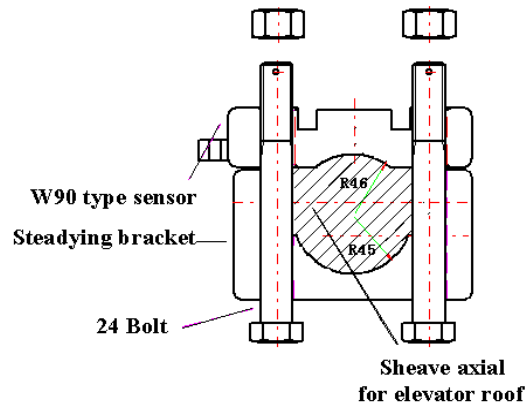

Fig.7
2. The sensor installed in top of car. The sketch map of installation is followed. (Fig.7)